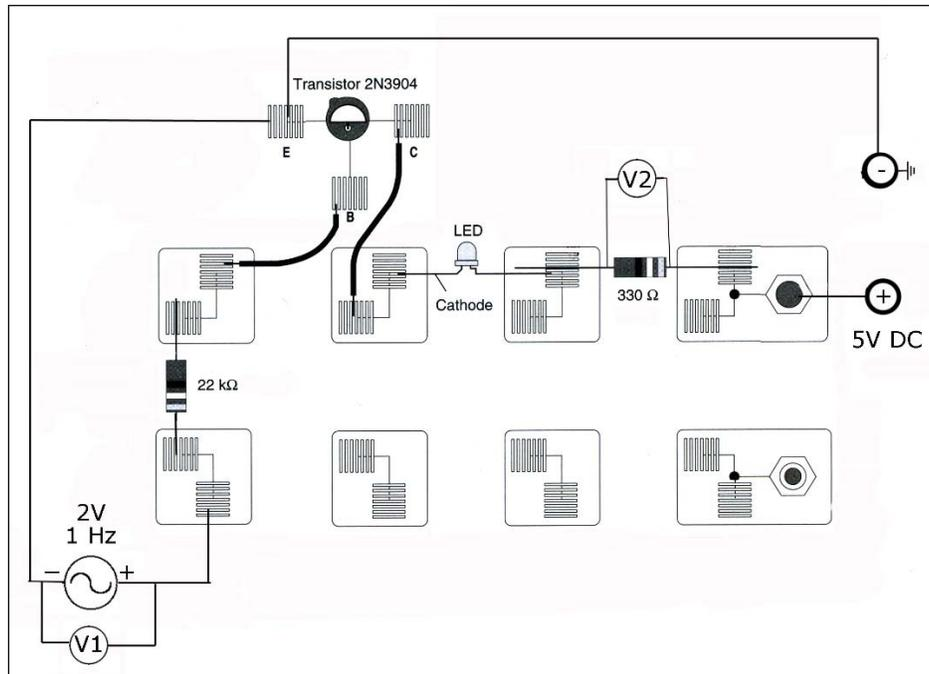

Fig. 9: circuit to build in step 3.
3. Build the circuit shown in Fig. 9. Attach the voltage sensors last. Make sure to connect a patch cord from the negative terminal (black) of the DC power supply to the ground terminal (green) of the same unit.